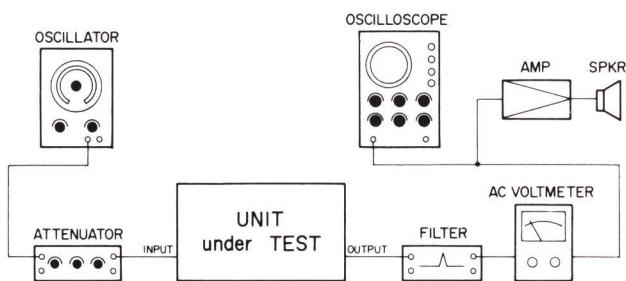

Fig. 7-4
- 1) Connect the measuring instruments as shown in Fig. 7-4. To check that erasing is effective, use a 1-kHz bandpass filter.
1) Connect the measuring instruments as shown in Fig. 7-4.